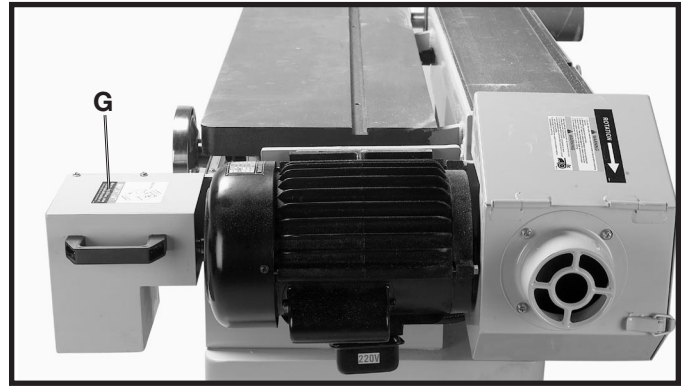
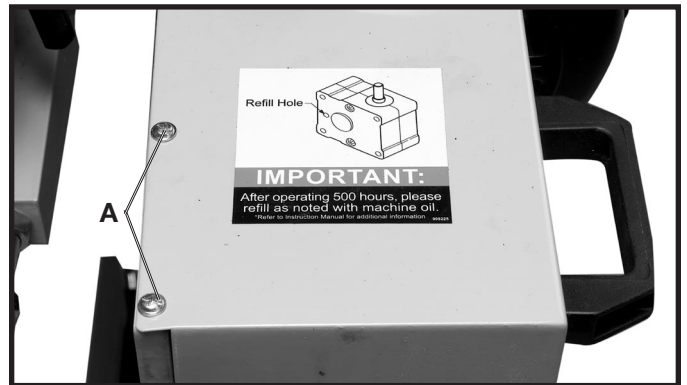

Fig. 55
Fig. 56
1. Make sure that the belt sander is in the horizontal position as shown in Fig. 55.
2. Remove the two screws (A) Fig. 56, on top of the gear box cover (G) Fig. 55.
3. Remove the two screws, located right below screws (A) Fig. 56, on the bottom of the gear box cover. Remove the gear box cover.